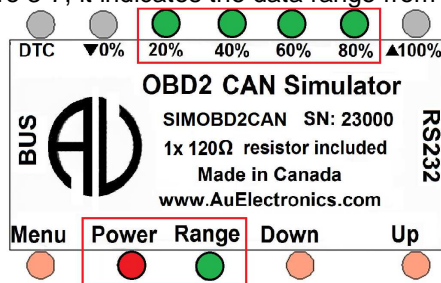

Figure 3-7
- If keep pressing **Up** button, the control step value will keep rising. 20%, 40%, 60%, and 80% LED will be on, as shown in Figure 3-7, it indicates the data range from 81% to 99%.